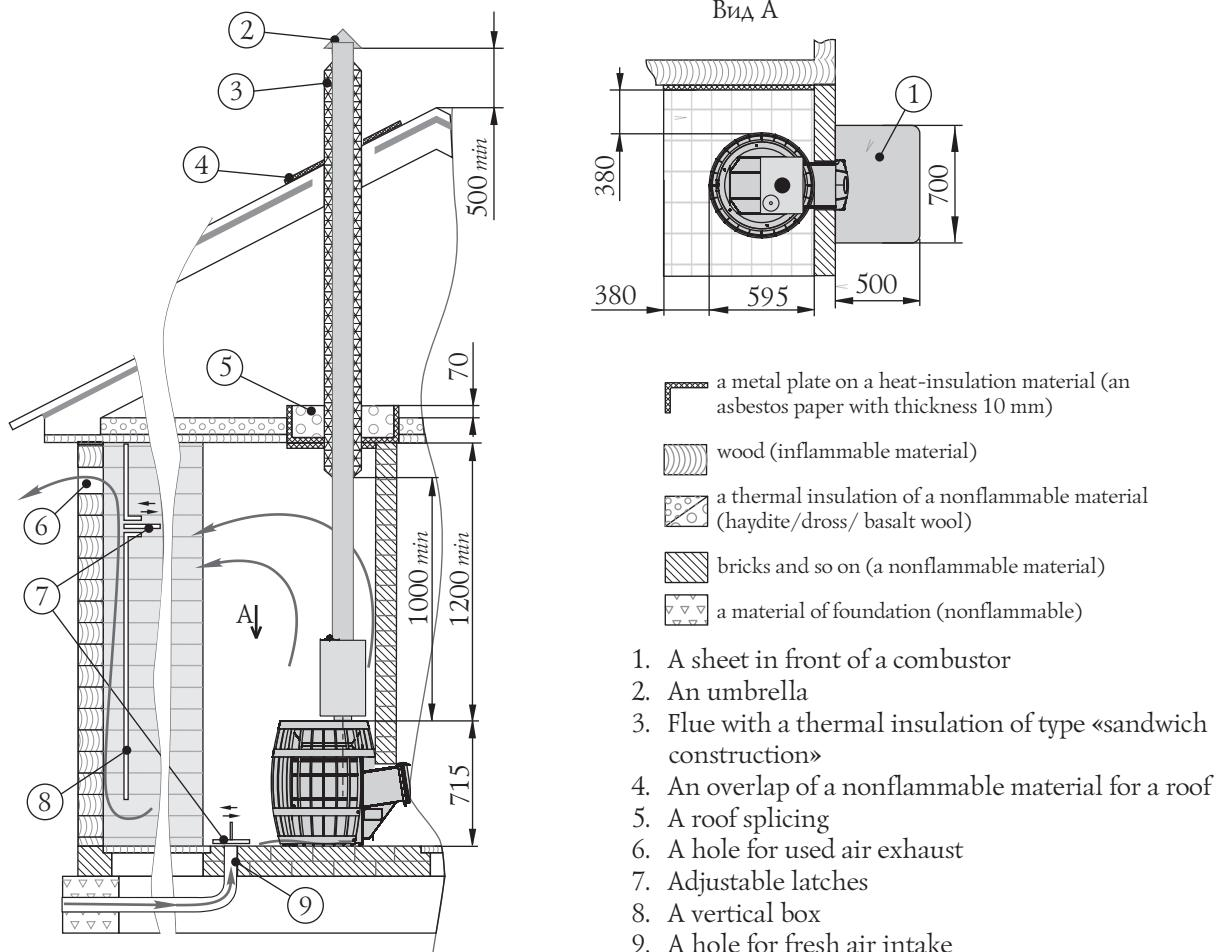

Figure 4. Installation of the stove in inflammable material premise
It is recommended to organize a balanced system of ventilation for provision of good air change (see figure 4). A hole for fresh air intake (9) with a section about 100 square centimeters is made in a floor as closely as possible to the stove or under the stove.
A scheme of installation of the stove is presented in figure 4. Distance from the door of the combustor till the wall opposite will be at least 1250 mm. Distance between the top of the stove and an unguarded ceiling will be at least 1200 mm.